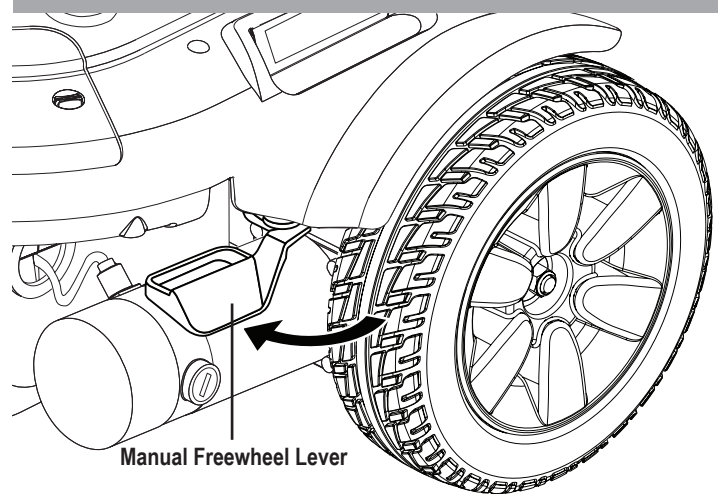

Figure 2. Drive Mode (Drive Engaged)
2. Push the two levers inward to engage the drive motors (drive mode). **See figure 2.**